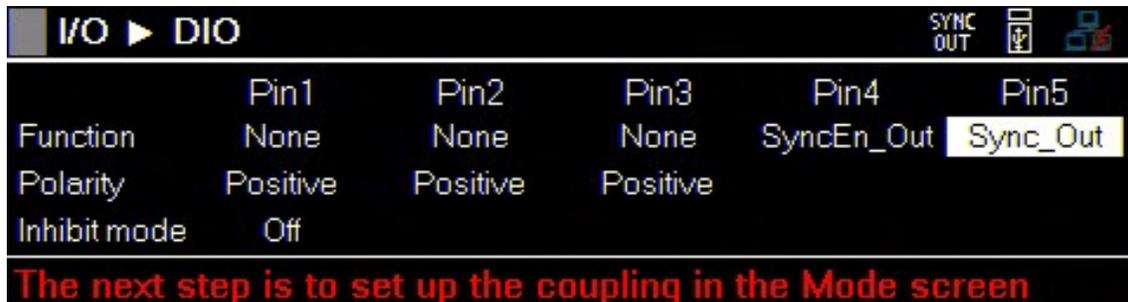

Figure 10.10 Synchronization Out
- Once the slave mainframes are configure the master mainframe's PIN5 to Sync_ Out as shown in **figure 10.10**.